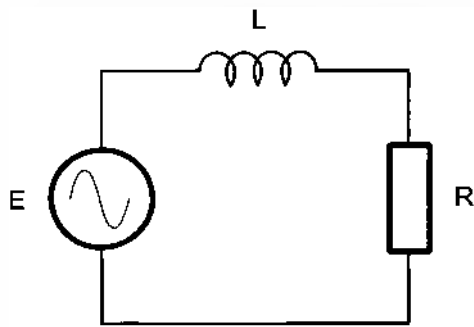
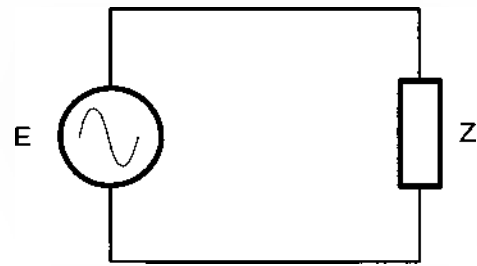

Figure 2a *An RL circuit*
Figure 2b *The single impedance equivalent circuit of Figure 2a*
Figure 2a below shows an RL circuit and Figure 2b shows an equivalent circuit where the total resistive effect of the resistor and the inductor is represented by the impedance (Z).
Figure 2b is also an equivalent circuit for RC and RLC circuits.